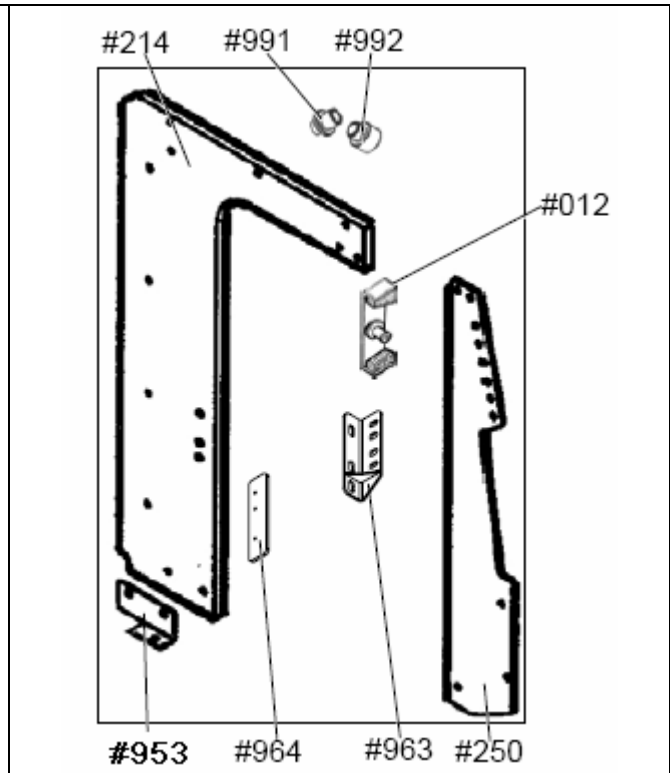

Figure 5-22. LH Kit Installation – Parts.
#### Parts (see Figure 5-22)
1. Installation of the Left Hand side armor is the same as the Right Hand armor. Repeat the procedures in Section 5.5. Refer to Figures 5-22, 5-23, 5-24 and 5-25.